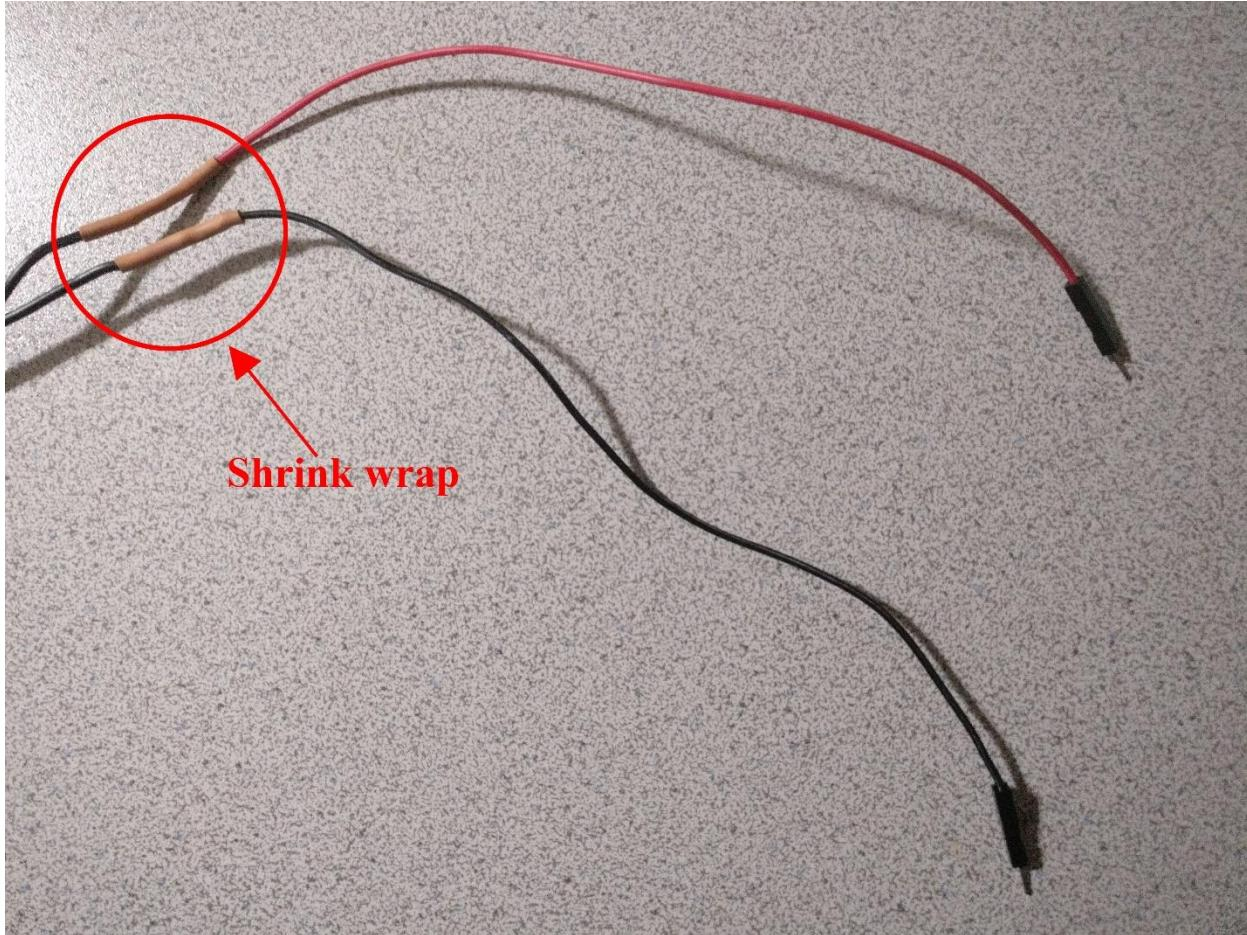

Figure 3-1 – Finished shrink wrap on DC power adapter
18. When the soldered joints cool down, slide the shrink wrap over the joint and apply moderate heat until the shrink wrap has shrunk. For tips on how to correctly use shrink wrap, consult someone experienced and/or the internet. Refer to Figure 3-1 for an example of what the finished shrink wrap should look like.
2. Along the length of the board, along the top and bottom, there will be two rows of holes. The row of holes closest to the outside of the shield will receive the included male-to-male headers. Break off just enough pins to fill in the holes. Figures 3-1 through 3-4 show the completed board.